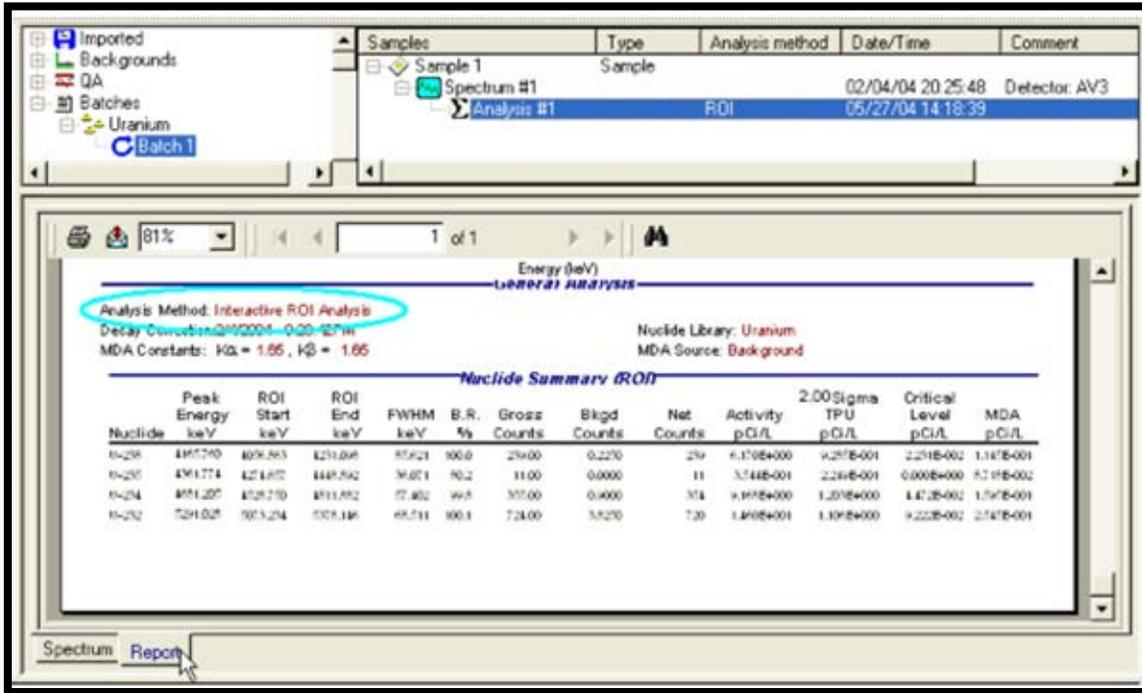

Figure 143. Report Indicates an Interactive ROI Analysis and Lists the ROIs Used
- In the General Analysis section of the report, the **Analysis Method** field will read **Interactive ROI Analysis**. The Nuclide Summary (ROI) section (Figure 143) will show the list of peaks in the customized ROI Set. The **Analysis Method** field will indicate that an interactive ROI analysis has been performed.